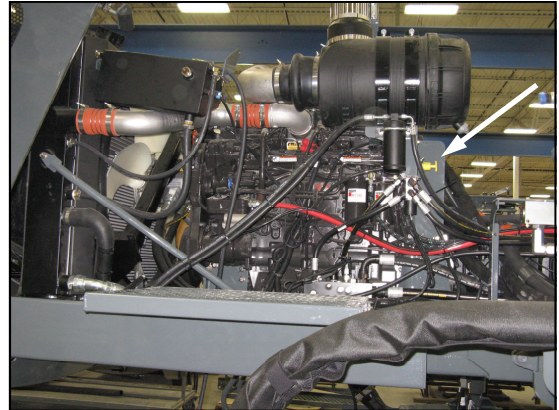

FIG 85-1
**OIL LEVEL**—The engine oil level dipstick is located on the left-hand side of the engine (fig. 85-1). Never operate the engine with the oil level below the “L” (low) mark or above the “H” (high) mark. Wait at least five minutes after shutting off the engine to check the oil level, this allows the oil to drain to the oil pan. Check the engine oil level daily.